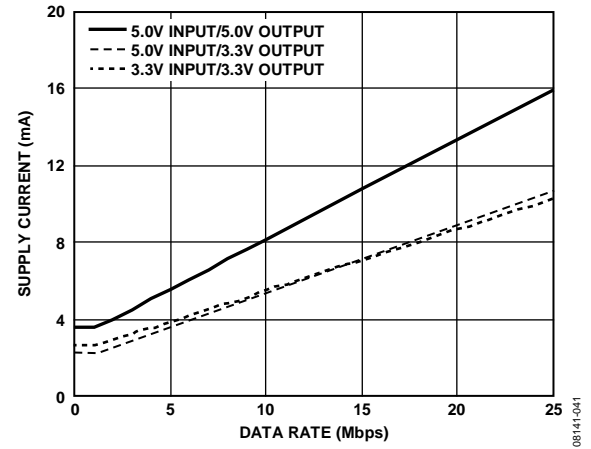
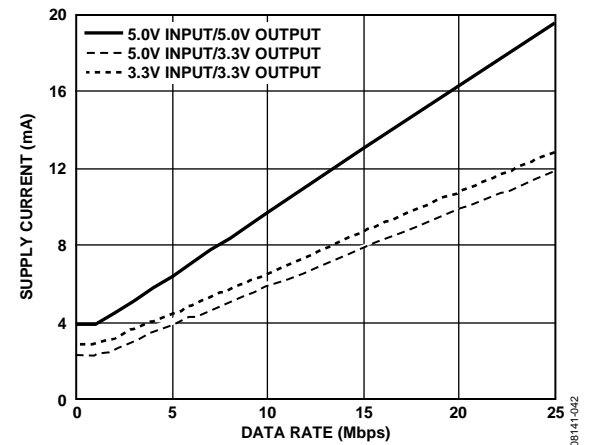

Figure 23. Typical  $I_{chn}$  Supply Current per Forward Data Channel (15 pF Output Load)
Figure 24. Typical  $I_{chn}$  Supply Current per Reverse Data Channel (15 pF Output Load)
Both dynamic input and output current is consumed only when operating at channel speeds higher than the refresh rate, f. Each channel has a dynamic current determined by its data rate. Figure 23 shows the current for a channel in the forward direction, which means that the input is on the primary side of the part. Figure 24 shows the current for a channel in the reverse direction, which means that the input is on the secondary side of the part. Both figures assume a typical 15 pF load. The following relationship allows the total IDD1 current to be calculated:
- ICHn is the current drawn by a single channel, determined from Figure 23 or Figure 24, depending on channel direction.
- IISO(D)n is the dynamic load current drawn from VISO by an input or output channel, as shown in Figure 23 and Figure 24 for a typical 15 pF load.